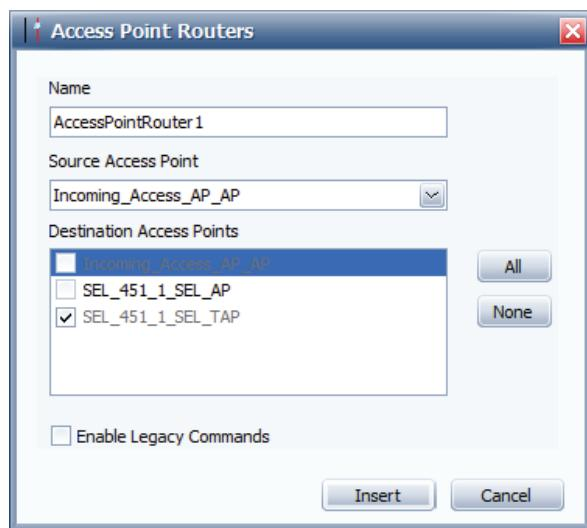

Figure 4.8 Insert Access Point Router
- Step 3. Insert an access point router and select the access point from Step 2 as the source and the SEL-451 TAP from Step 1 as the destination. See *Figure 4.8*.